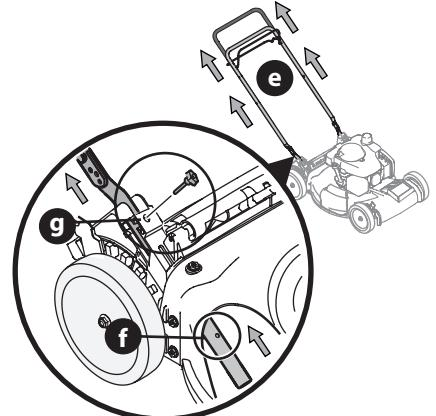

Figure 3
- Pull upward on the handle (e) (Figure 3) until holes in lower handle (f) line up with holes in handle brackets (g) (Figure 3 inset, deck cutaway).